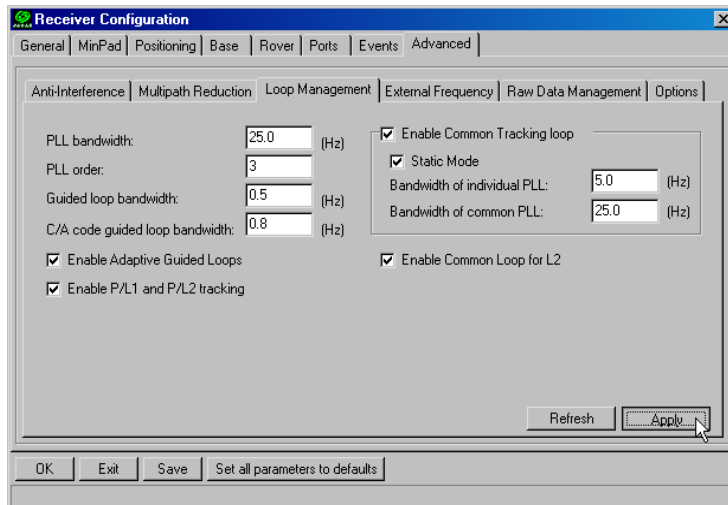

Figure 2-17. Advanced Configuration – Loop Management
5. Click the **Loop Management** tab, enable the following boxes, and click **Apply** (Figure 2-17):